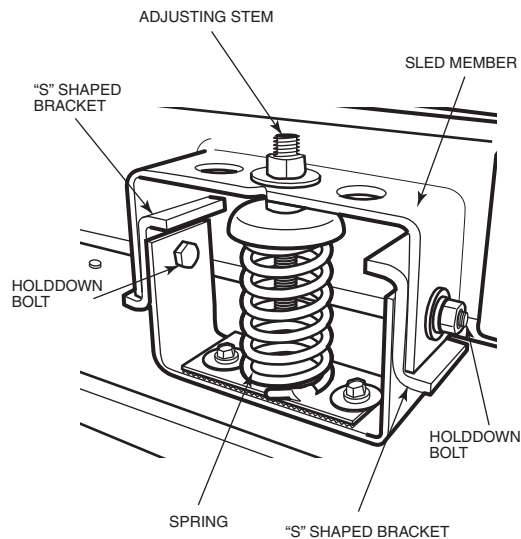

Fig. 18 — Spring Isolator and Holddown Bracket
Remove the holddown bolts (Fig. 18) as follows:
2. Remove the bolts that fasten the fan sled to the holddown bracket (Fig. 18). Remove “S” shaped brackets.
When field-supplied motors and drives have been installed, adjust the isolator springs as shown in Fig. 18 and described as follows: